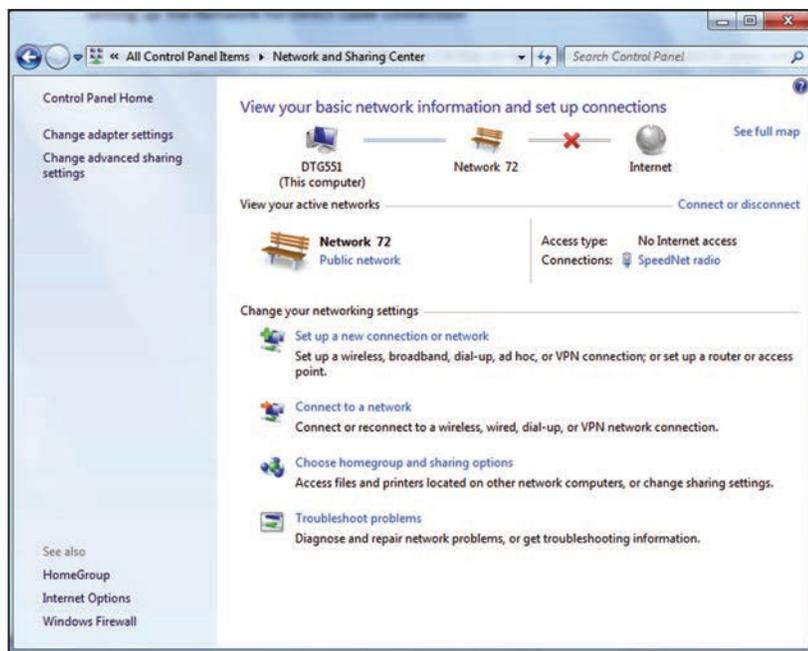

Figure 9. The Network and Sharing Center dialog box.
STEP 1. Open the Control Panel and click on the **Network and Sharing Center** entry, or click on the Network icon in the system tray and select “Network and Sharing Center.” Then, click on the “Setup a new connection or network” link. See Figure 9.